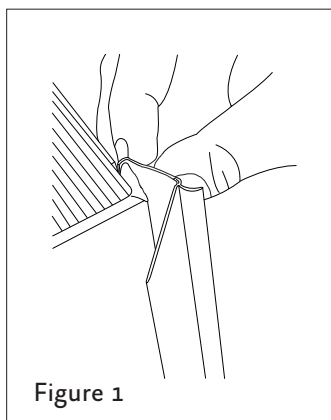

Figure 1
- Make sure that the long side of the gasket, the one with the holes for inserting the screws, is attached to the outside of the dishwasher. (Figure 1 below.)